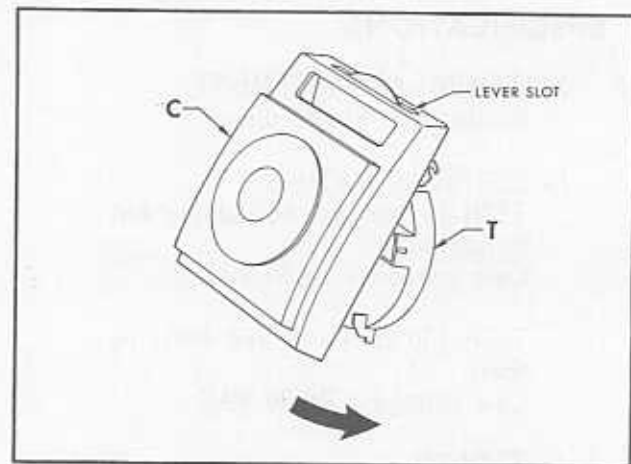

Fig. 3
- A. Place slotted portion of cover (C) over adjusting lever (see Fig. 3).
- B. Push bottom of cover (C) toward thermostat (T) until it snaps into place.